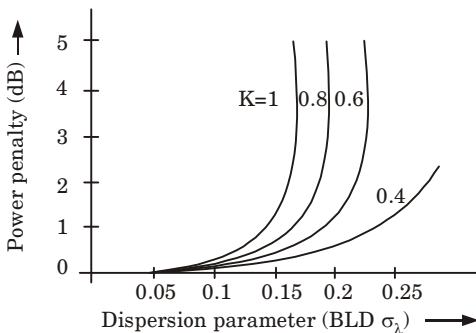

Fig. 5.13.3. MPN induced power penalty.
5. Fig. 5.13.3 shows power penalty at BER of 10^{-9} as a function of normalized dispersion parameter (BLD) for different value of mode partition coefficient (K).